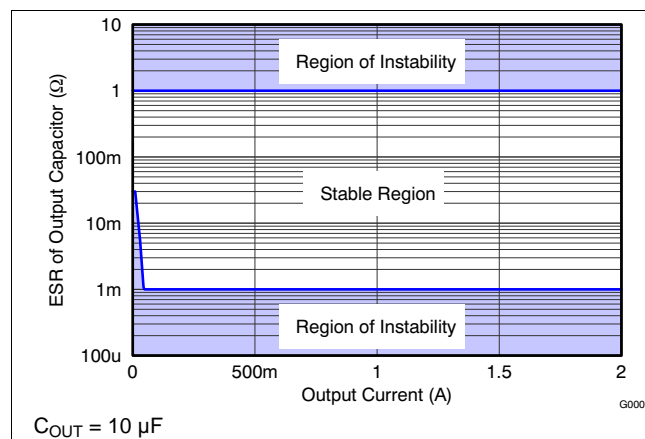
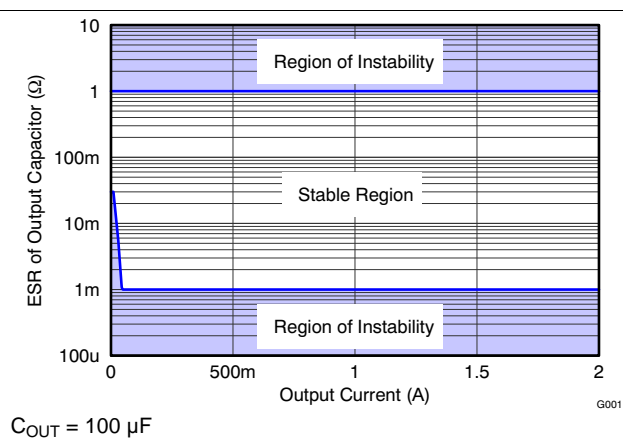

Figure 1. Stability Curve
Figure 2. Stability Curve
- (1) See Figure 1 and Figure 2 for additional output capacitor ESR requirements.
- (2) For output capacitors larger than 47 μF, a feedforward capacitor of at least 220 pF must be used.